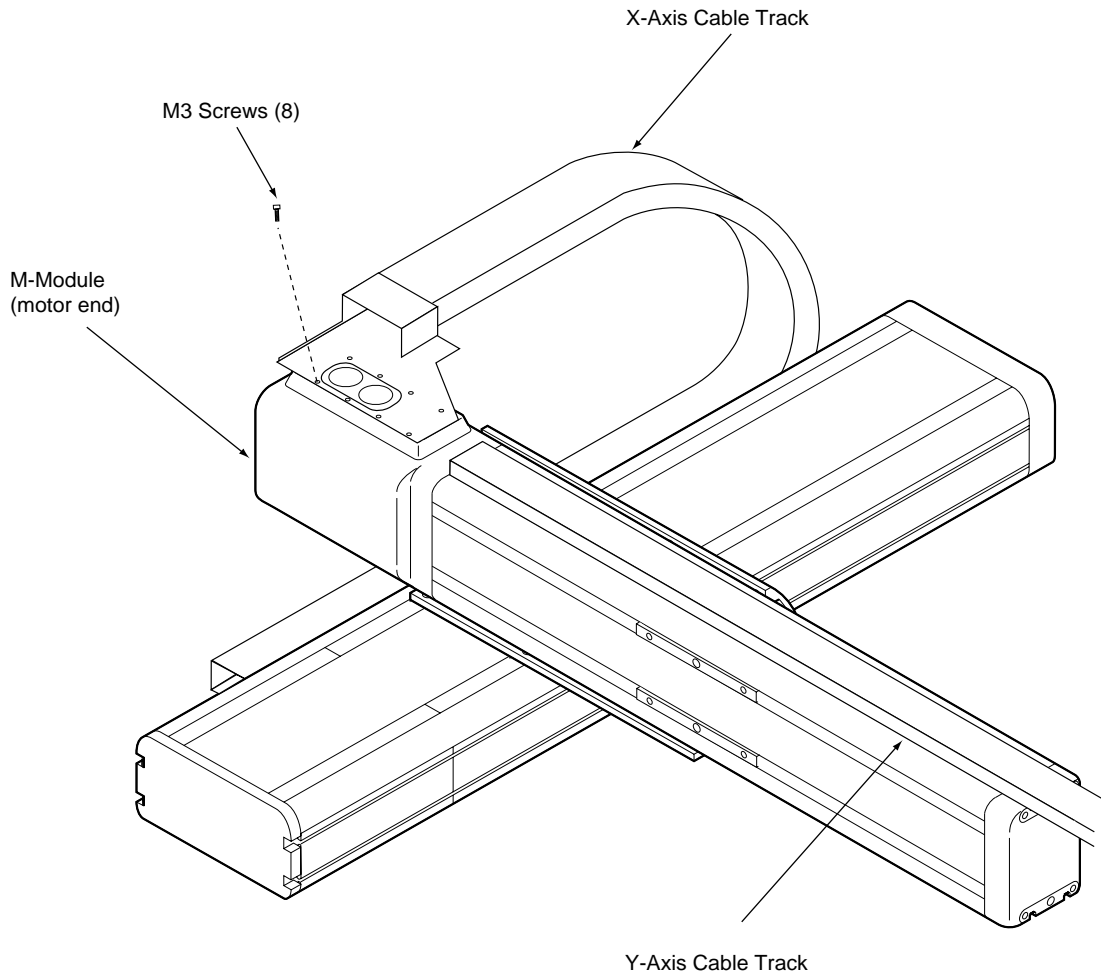

Figure 6-5. Mounting Cable Track to the Y-Axis
4. Set the other end of the X-axis cable track on the motor end of the M-Module. Secure the bracket using eight M3 screws. The Y-axis cable track should rest on top of the M-Module (see Figure 6-5).